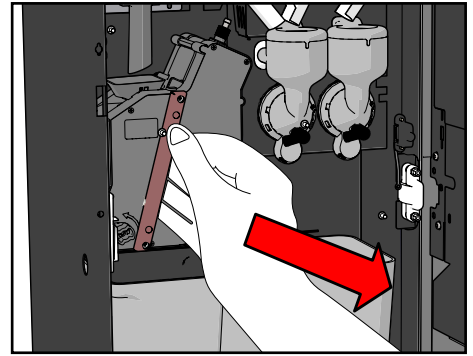

Figure 12.
4. Remove the outlet arm and espresso brewer (see Figure 12).